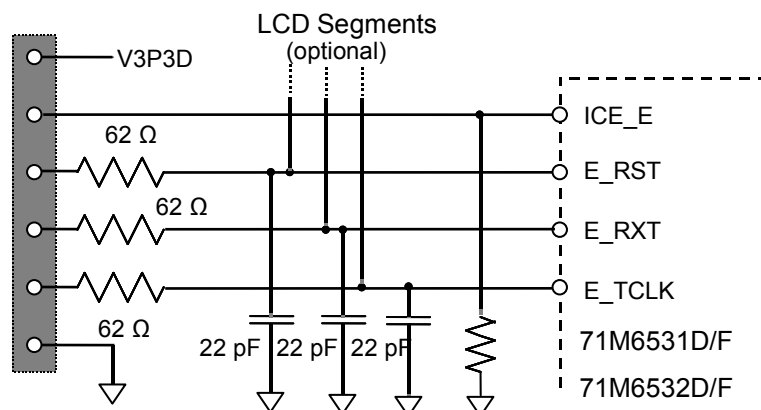

**Figure 38: External Components for the RESET Pin: Push-button (Left), Production Circuit (Right)**
Even though a functional meter will not necessarily need a reset switch, it is useful to have a reset push-button for prototyping as shown in Figure 38, left side. The RESET signal may be sourced from V3P3SYS (functional in MISSION mode only), V3P3D (MISSION and BROWNOUT modes), or VBAT (all modes, if a battery is present), or from a combination of these sources, depending on the application.
For a production meter, the RESET pin should be protected by the by the external components shown in Figure 38, right side. R1 should be in the range of 100  $\Omega$  and mounted as closely as possible to the IC.
- ✓ Since the 71M6531 generates its own power-on reset, a reset button or circuitry, as shown in Figure 38, is only required for test units and prototypes.